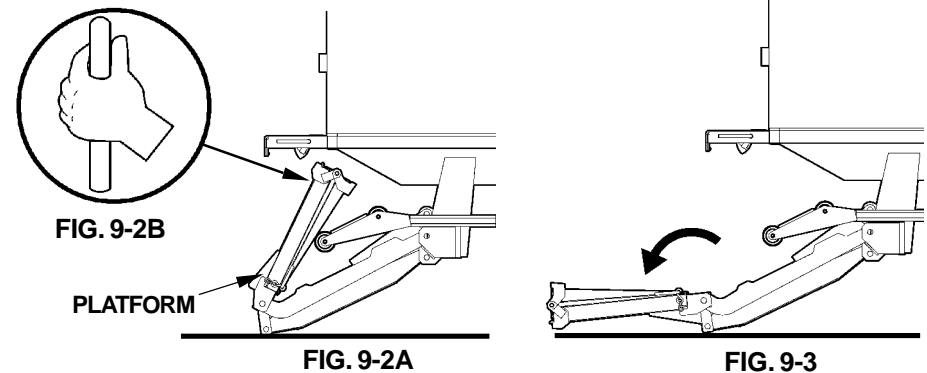

FIG. 9-2B
2. Lower Liftgate until it touches the ground (FIG. 9-2A). Use handle (FIG. 9-2B) to unfold the platform (FIG. 9-2A) as shown in FIG. 9-3.